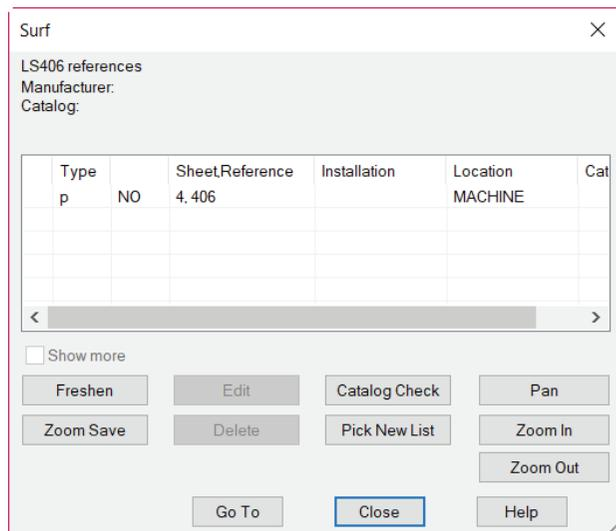

Figure 2-81 The Surf dialog box
- Choose **Surf** from the shortcut menu; the **Surf** dialog box is displayed, as shown in Figure 2-81. Choose **Go To** from the **Surf** dialog box; the *demo004.dwg* file is opened with **LS406** zoomed in.